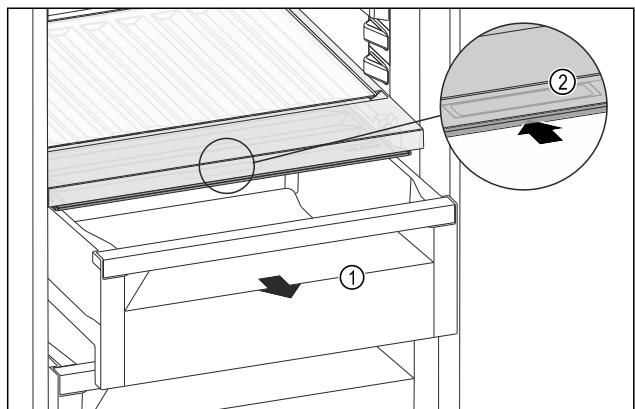

Fig. 149
- Pull out the drawer Fig. 149 (1).
- Grasp the recessed grip Fig. 149 (2) on the compartment lid and push the compartment lid backwards at the same time.